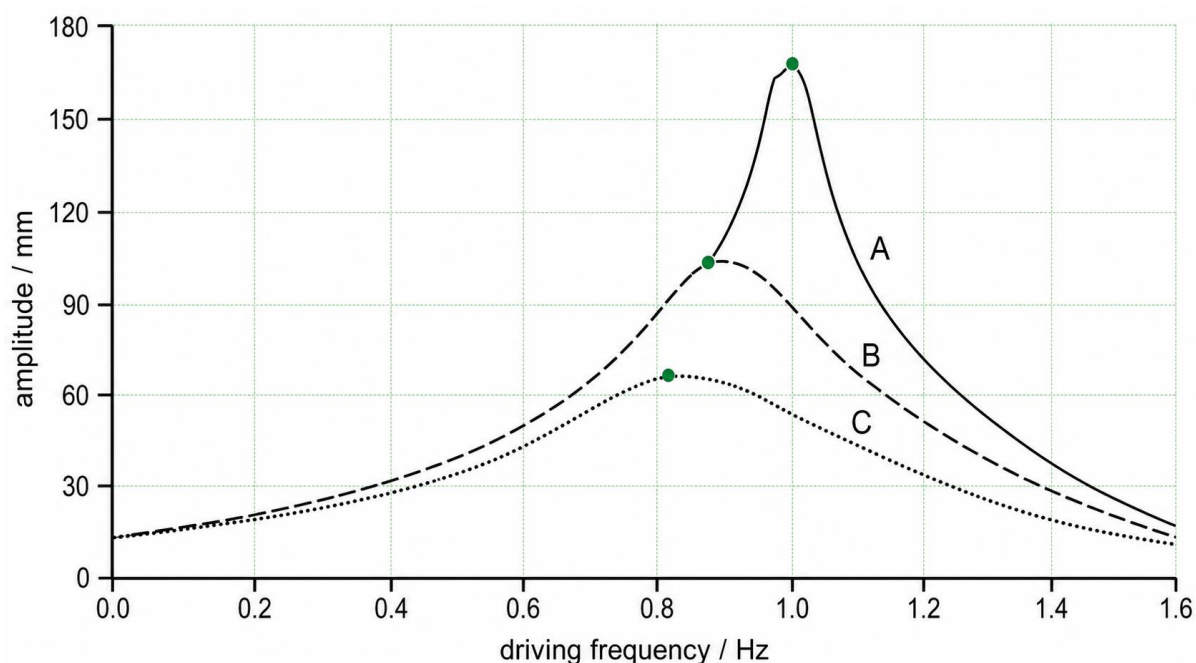

Figure 3: response of the same carriage at three damper settings
9. Figure 3 shows the amplitude-frequency responses for damper settings A, B and C. (a) Determine the resonant frequency for setting A and identify the most heavily damped setting. (b) Describe how increasing the damping changes the height, width and position of the resonance peak. [5 marks]